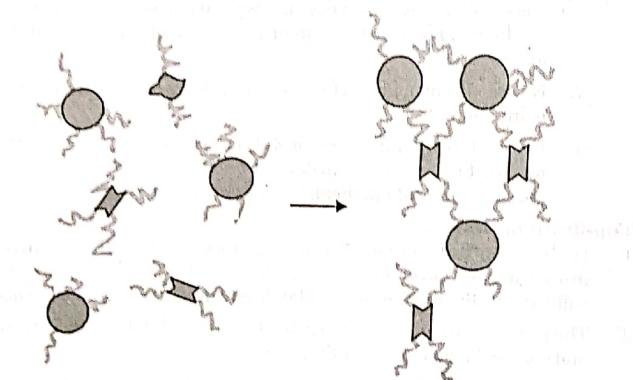

Fig. 1.27.1. Self-assembly.
2. Self-assembly can be defined as the reversible and spontaneous organization of molecules into order structures. It takes place by non-covalent interactions and there is no external work required as shown in Fig. 1.27.1.